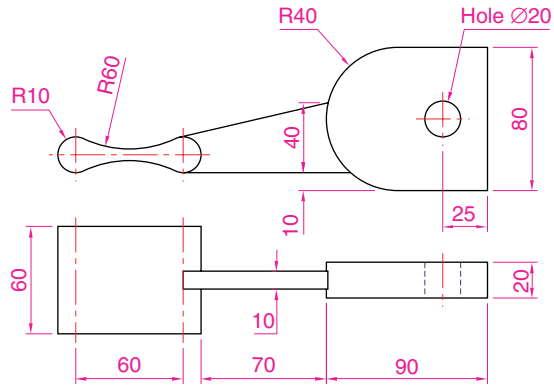

Fig. 19.23 Third example of 3D models – details of shapes and sizes
1. ***FRONT***. Construct the three plines needed for the extrusions of each part of the model (details in Fig. 19.23). Extrude to the given heights. Subtract the hole from the 20 high extrusion.